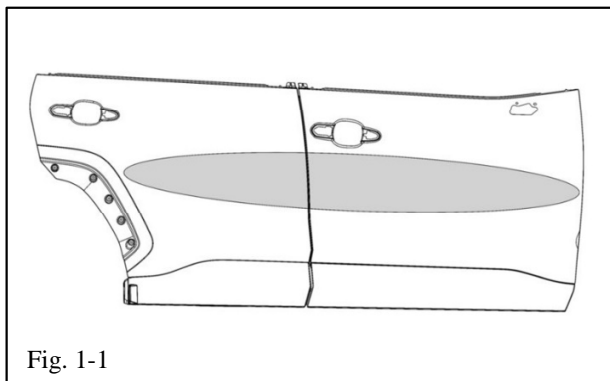

Fig. 1-1
- (c) Clean the door area/fixture touch points using a non-scratch cloth and a VDC approved cleaner and cleaning method (Fig. 1-1).